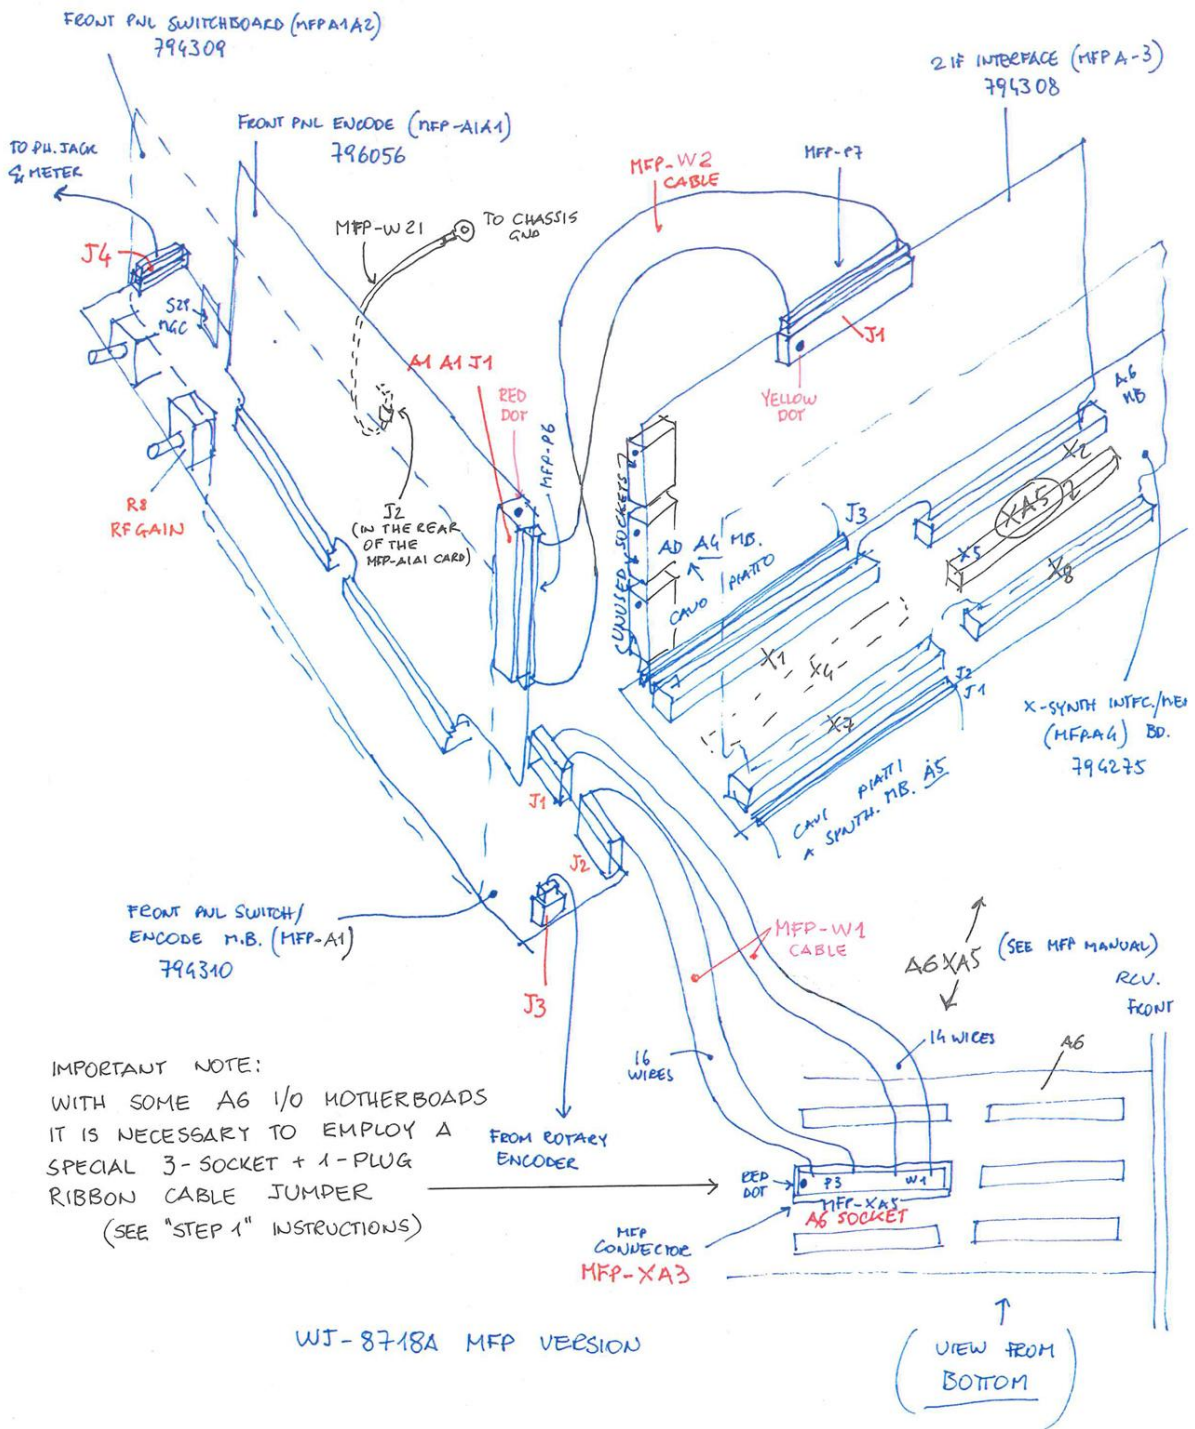
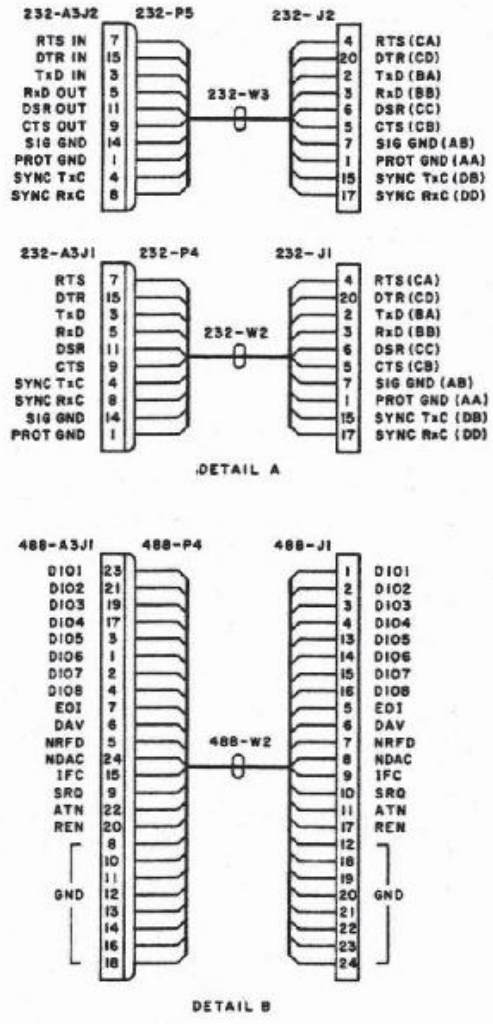

Figure 49: A rough sketch of the final MFP layout (the Line Audio level cable and some other single-wire connections are not shown for simplicity).
Figure 52: IEEE-488 and RS-232 I/O connectors pin layout (rear panel connectors shown at right).
25. Carefully install the MFP front panel assembly on the receiver. Also check for trapped cables or wires and check the positioning of the Power Switch pushbutton for freedom of movement. Figure 49 shows a rough sketch of the final MFP configuration (Line Audio level cable not represented).
27. (*optional*). If a remote control of the /MFP receiver is needed (or if the radio has to be set as a “master” unit for controlling other remote “slave” receivers) a GPIB (*General Purpose Interface Bus*) IEEE-488 or a RS-232 *I/O Interface Card* must be inserted into the XA5 socket of the A6 I/O Motherboard (see Figure 07 of the “Step 1” Instructions). In Figures 35 and 36 is represented the 488M-3 *I/O Interface* 796075 card, while Figure 37 shows a 232M-A3 *I/O Interface* 796037 card. Please notice that using an IEEE-488 or a RS-232 card within the MFP receiver implies the insertion of special U1 and U2 EPROM versions (see NOTES). In addition, mounting the appropriate connector(s) on the receiver rear panel may require some mechanical modification to the holes that are present there, see Figures 49 and 50. The IEEE-488 and RS-232 I/O connectors pin layout is shown in Figure 52, further details about the proper connections and how to use the remote interfaces can be found in the MFP Manual referenced below (see NOTES)..